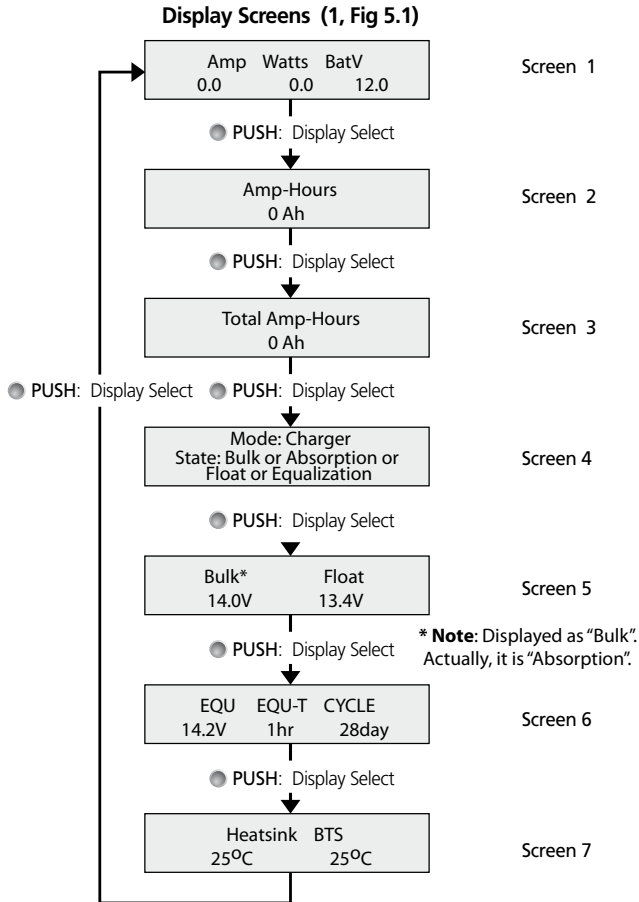

Fig. 5.3. LCD Display Flow
- LCD Screen 4 (Fig 5.3) displays “State: Equalization” all the time till the unit exits Equalization Stage to Float Stage.
- Screen 6 (Fig 5.3) displays the set Equalization Voltage (under EQU), the Equalization Time (under EQU-T) and 28 day period (under CYCLE) pertaining to one of the 6 options of battery types that has been selected with the help of DIP Switches 2, 3, 4 (Fig 5.2 and Table 6.1)
During this stage, the LCD Screen 4 (Fig 5.3) displays “State: Equalization”. Screen 1 (Fig 5.3) shows the actual terminal voltage of the battery under “BatV”. This voltage
will be less than the programmed Equalization Voltage Set Point displayed on Screen 6 (Fig 5.3) under "EQU".
NOTE: *Although the charger is in Bulk Stage, the LCD Screen 4 (Fig 5.3) displays "State: Equalization" and NOT "State: Bulk."*
During this stage, LCD Screen 4 (Fig 5.3) displays " State: Equalization". LCD Screen 6 (Fig 5.3) displays the programmed Equalization parameters. Screen 1 (Fig 5.3) shows the programmed value of Equalization Voltage Regulation Set Point "Ve" under "BatV".
NOTE: *During Equalization Stage, if the load current is more than the current from the solar panel, the battery voltage will drop. If the battery voltage drops around 1V below the Equalization Transition Voltage Set Point "Ve" for around 1 min, the controller reverts to Bulk Stage with 100% Duty Cycle. The LCD Screen 4 (Fig 5.3) will still display "State: Equalization" and the front panel Status LED will still be steady Orange. It will revert to PWM when the battery voltage reaches Equalization Transition Voltage Set Point "Ve" and is sustained for a minimum period of around 50 to 55 sec.*
During this stage, the LCD Screen 4 (Fig 5.3) displays “State: Float”. Screen 5 (Fig 5.3) displays the programmed Float Voltage Regulation Set Point (Displayed on the screen under “Float”).
NOTE: During Float Stage, if the load current is more than the current from the solar panel, the battery voltage will drop. If the battery voltage drops around 1V below the Float Voltage Regulation Set Point “Vf” continuously for around 1 hour, the controller reverts to Bulk Stage and the LCD Screen 4 (Fig 5.3) changes to “State: Bulk”.
Display (3, Fig 5.1)	Push to change the LCD display screens (Fig. 5.3) Push and hold to reset Amp-Hours.
Fig. 5.3. Please note that the 7 screens are sequential & are displayed in a continuous loop: 1 - 2 - 3 - 4 - 5 - 6 - 7 - 1 - 2 - 3 and so on (See Fig. 5.3, page 36). When selected, Screens 2 to 7 will be displayed for 15 minutes and thereafter, will revert to Screen 1 (Default Screen). Details of information provided in the LCD screens (Fig 5.3, page 36) are given below:
As soon as Battery (+) is connected, the Status LED (2, Fig .1) will be steady Orange and message "Welcome to Samlex Solar 1.0" will be displayed for around 3 to 5 sec. After this, the LED will blink Green & Screen 1 (Fig 5.3) will be displayed: Amp 0.0; Watt 0.0; BatV="the battery voltage".